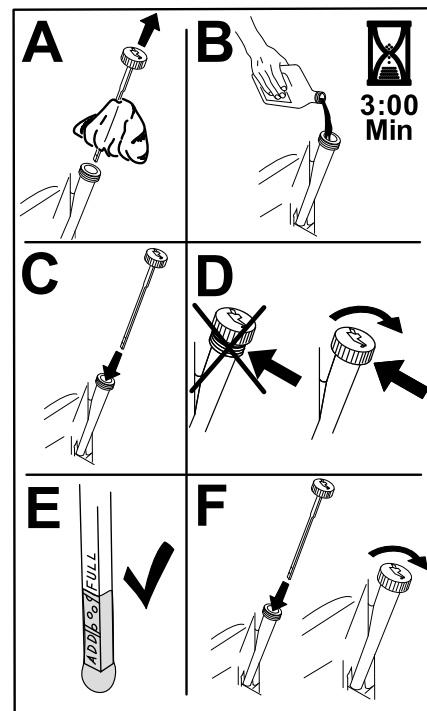

Figure 43
5. Slowly pour approximately 80% of the specified oil into the filler tube and slowly add the additional oil to bring it to the Full mark (Figure 43).